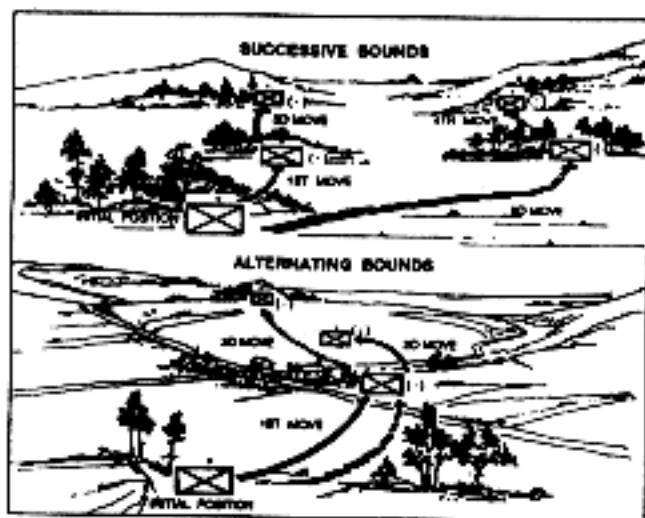

Figure 4-4. Squad Bounding Overwatch: Alternate Bounds.
(1) When using squad bounding overwatch, one fire team moves forward while the other team overwatches. Attached weapons are with the overwatch element. If the bounding team makes contact, the overwatch team supports the bounding team with fire and movement.
(2) Teams can bound successively or alternately. Successive bounds provide more control (See figure 4-4). Alternate bounds can be executed faster than successive bounds. Use the alternate bounds method when the overwatch element can observe the bounding element pass to its flank and advance to a new position.
(3) The team moves as a team if there is good cover and concealment. If there is not good cover, the soldiers move singularly or in pairs by short rushes from cover to cover or by crawling (Figure 4-4).